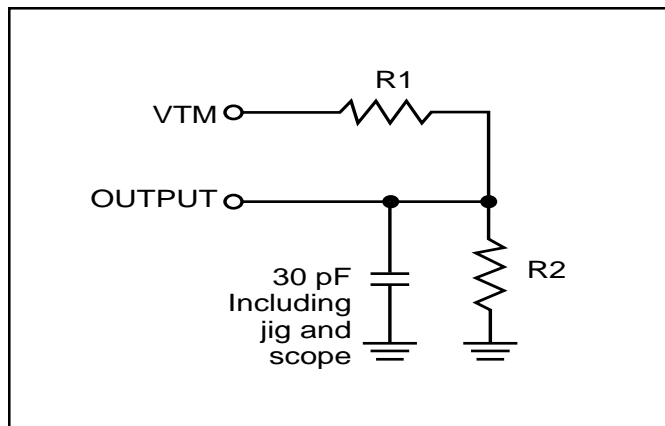

Figure 1
1. Test conditions assume signal transition times of 5 ns or less, timing reference levels of 0.9V/1.5V, input pulse levels of 0.4 to  $V_{DD}-0.2V/0.4V$  to  $V_{DD}-0.3V$  and output loading specified in Figure 1.